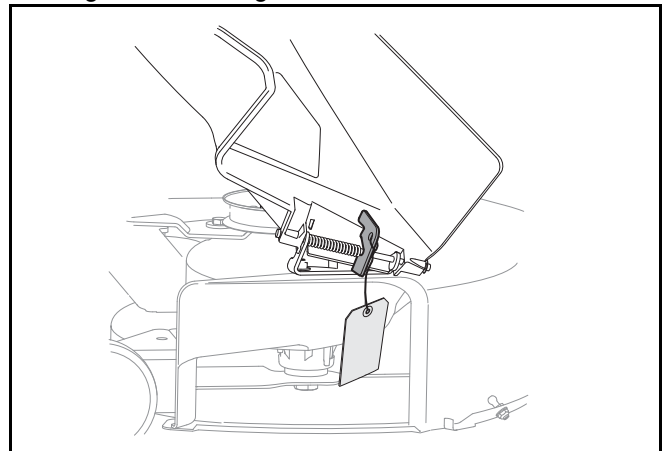

Figure 5
- Locate the shipping brace, if present, and warning tag found on the right side of the cutting deck. See Figure 5.